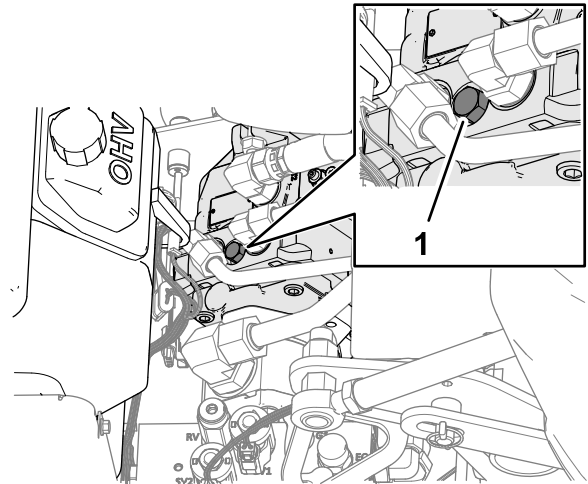

Figure 116
4. Locate the cover for the bypass-valve screw between the engine and hydraulic pump as shown in Figure 116).